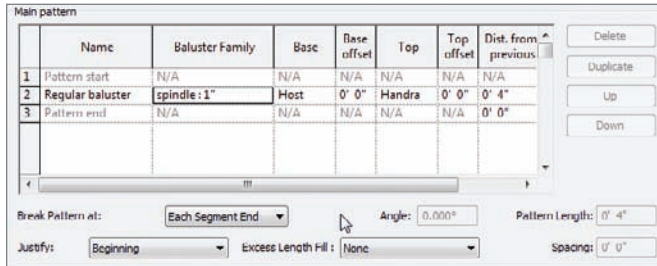

FIGURE 10.60 Adding the spindle to the Main Pattern
13. In the Main Pattern area, change Baluster Family to Spindle 1" (see Figure 10.60).